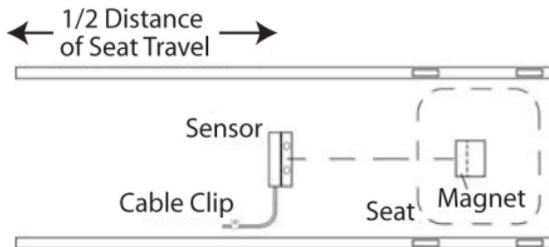
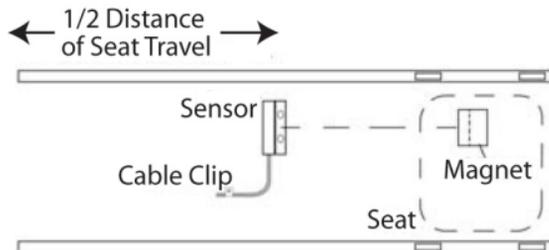

FIGURE 1a: SENSOR & MAGNET INSTALLATION
FIGURE 1b: SENSOR & MAGNET INSTALLATION
Refer to Figures 1a and 1b. Note the position of the sensor - it should be close to the center of the seat travel and it MUST be perpendicular to the long axis of the shell.
It is not necessary for the sensor and magnets to be centered between the rails as shown in Figure 1a. They may be positioned off center as shown in Fig 1b. However, the holes in the magnet assembly MUST pass directly over the holes in the sensor. The dashed horizontal line in each figure indicates the correct alignment.
5. Return the stroke seat to its slide and check that the clearance between the magnet and sensor is no more than 3/8" (refer to Fig 2). Check also that the magnets pass directly over the sensor (refer to Figures 1a, 1b).